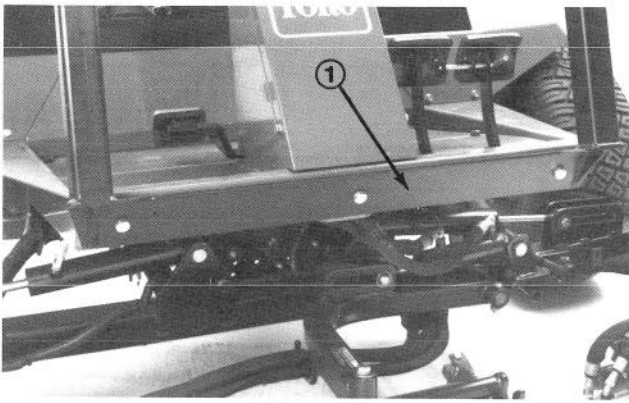

Figure 19
3. Secure front of roll bar to frame with (3) 1/2 x 13 - 1-1/4" lg. capscrews, 1/2" flatwashers, 1/2" lockwashers and 1/2 - 13 locknuts (Fig. 19). Tighten all fasteners securely.